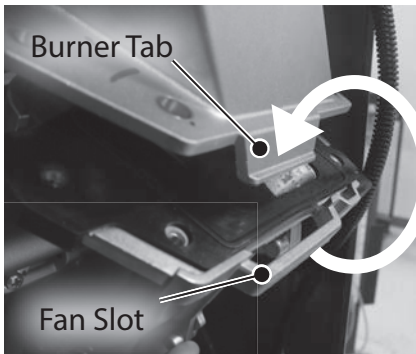

Figure 157 - Burner tab and fan slot
**NOTICE:** Confirm the burner tab engages the fan slot as shown in Figure 157.